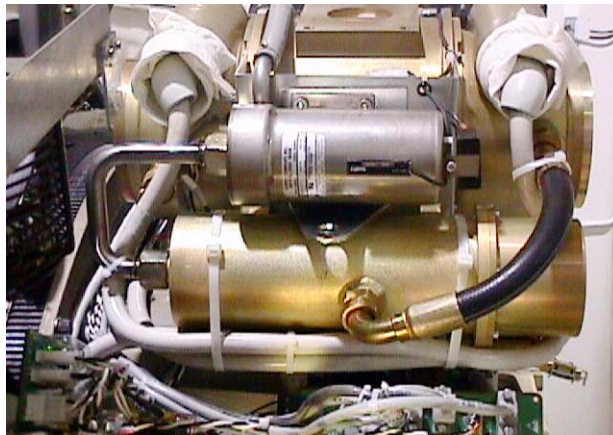

Figure 26 - HV Cables Properly Routed and Secured
- 13.) Be sure to route the **HV** cable as shown in Figure 26.
- 17.) Secure HV Cables using Large Ty-Raps, as shown in Figure 26.
- 21.) Install the right gantry front cover bracket. Reference Figure 26, on page 27.